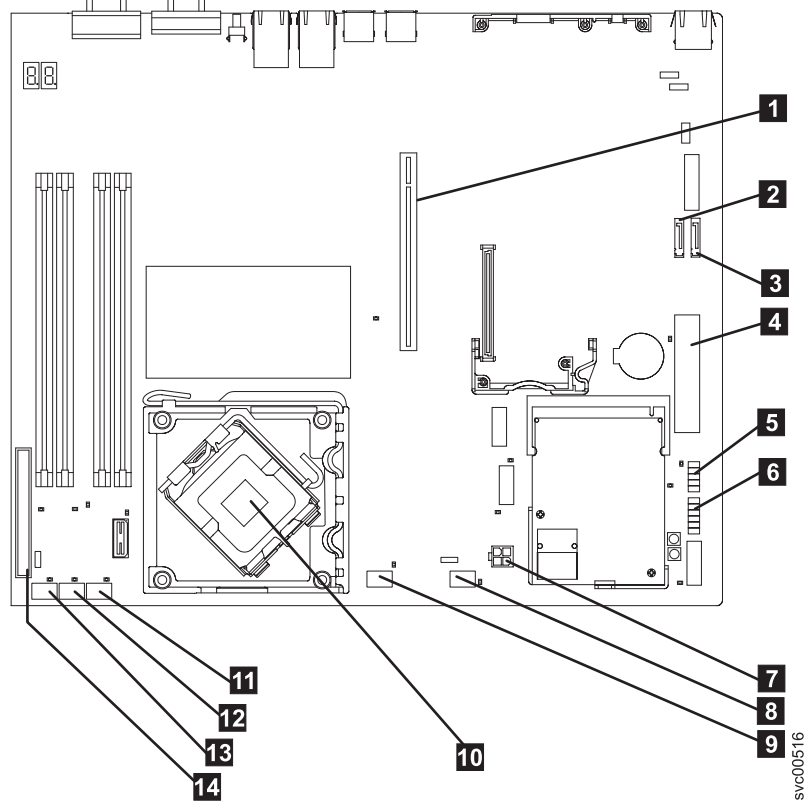

Figure 192. Connectors that are used on the SAN Volume Controller 2145-8A4 system board
7. Mark the cables to ensure that you know where each one goes. Figure 192 on page 209 shows the connectors on the SAN Volume Controller 2145-8A4 system board.